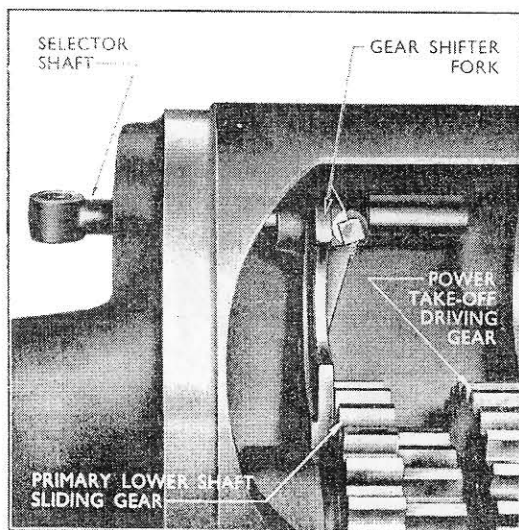

Fig. 16
7. Move the primary lower shaft sliding gear and shifter fork to bring the tapped hole in the fork into line with the countersunk hole in the selector shaft, fit the shifter fork securing screw, tighten and lock with wire. (See Fig. 16.)